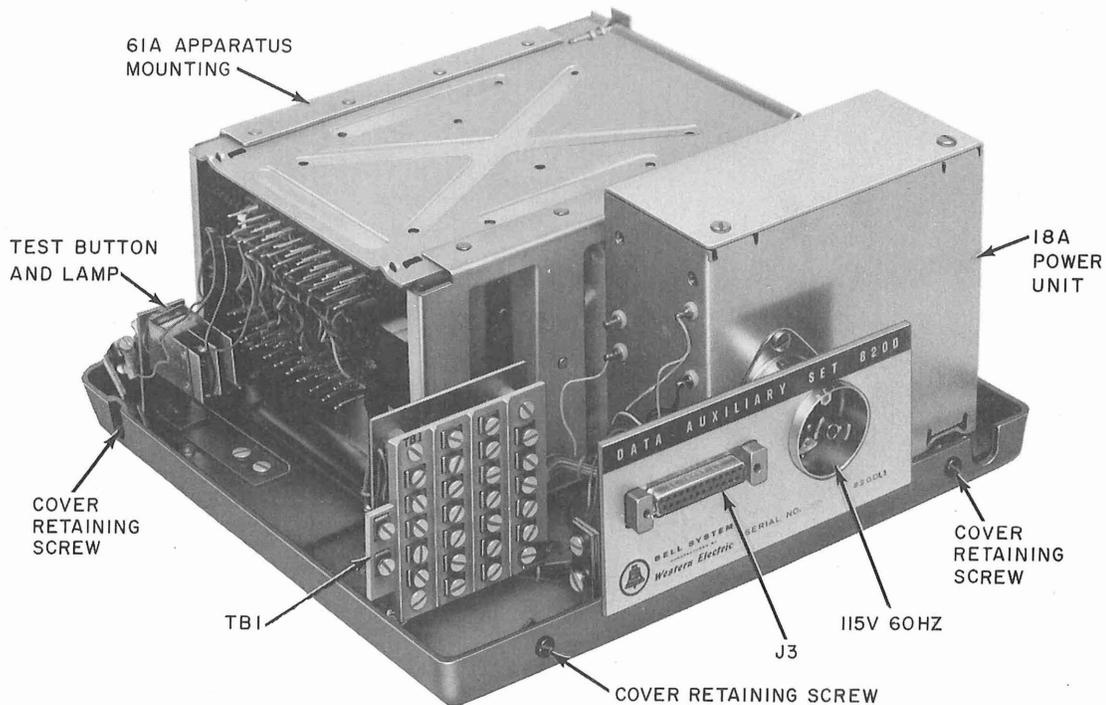

Fig. 5—DAS 820D-L1 (Rear View—Cover Removed) or DAS 820D-L1A
(a) Connect the ac power cord to the ac connector of DAS 820D \blacktriangleright -L1 \blacktriangleleft (Fig. 5) and then to the customer-provided wall receptacle.
(1) Set the volt-ohm-milliammeter to 12 on the DC VOLTS scale.
(2) Connect the positive (+) lead of the meter to terminal 2 of terminal strip \blacktriangleright TB1 [(TB)A of DAS 820D1] \blacktriangleleft (Fig. 5) and the negative (-) lead of the meter to terminal 1 of \blacktriangleright TB1 [(TS)A of DAS 820D1]. \blacktriangleleft
(3) A reading within the range of 3.9 through 4.7 volts must be made to indicate proper operation of the data station. **Note:** A reading within the range of 3.9 through 4.7 volts indicates a marking condition, whereas a reading within the range of 12.5 through 13.3 volts indicates a spacing condition. If the reading is not within the range of 3.9 through 4.7 volts, perform the tests outlined in the section entitled Data Set 109A-Type Single Private Line Station Using Data Auxiliary Set 820D-Type, Test Procedures (591-024-501) to determine and correct the malfunction of the data station.
connector J3 (Fig. 5) on DAS 820D L1 and repeat the procedures outlined in 3.05(a), (b), and (c). An interface connection cord provided by the customer should not exceed 50 feet in length. The interface leads to the customer-provided terminal (CPT) are shown in Table B. Those pins of interface connector J3 not shown in Table B are not used.
3.08 Connect the ac power cord to the ac power connector (Fig. 5) and then to the customer-provided wall receptacle.
(1) Connect the cord tip end of the M3AY to the T terminal block on the 35-TTY electrical service unit (ESU) as follows:
(2) Connect the 7593 Hubbell body end of the M3AY cord to the ac power connector on the DAS 820D ▶-L1A◀ (Fig. 5).
(3) Connect the TTY ac power plug to the customer-provided wall receptacle.
(4) Measure the output voltage of the data station as follows:
- Connect the positive (+) lead of the meter to terminal 2 of ▶TB1 [(TS)A of DAS 820D2]◀ (Fig. 5) and the negative (-) lead of the meter to terminal 1 of ▶TB1 [(TS)A of DAS 820D2]◀ (Fig. 5).
(5) Disconnect the TTY ac power plug from the customer-provided wall receptacle.
- (i) Connect the leads of the incoming transmission loop to TB1 [(TS)A of DAS 820D2] on DAS 820D L1A (Fig. 5) as outlined in Part 4 of this section.